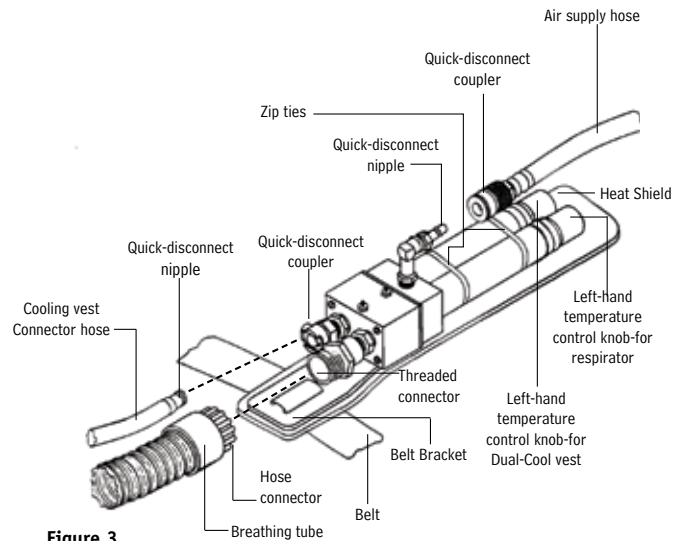

Figure 3
2. Use plastic zip ties (2 included) to secure the climate control to the heat shield. (**Figure 3**)
1. Screw the hose connector that is on the end of the breathing tube to threaded connector on Dual-Cool. Lace the belt through the slots in the belt bracket (**Figure 3**).
4. Snap the quick-disconnect nipple found on the end of the cooling vest connector hose into the quick-disconnect coupler on the Dual-Cool (**Figure 3**).
6. With the approved Bullard air supply hose connected to the breathing air source, and with air flowing into the hose, connect the quick-disconnect coupler on the air supply hose to the quick-disconnect nipple on the Dual-Cool (**Figure 3**).
1. To obtain cooler air, turn the air temperature control knobs counterclockwise (**Figure 3**). Maximum cooling is obtained when knobs are open completely and when there is maximum airflow out of the Dual-Cool tube's exhaust ports. To obtain air that is closer to ambient temperature, turn air temperature control knobs clockwise. If knobs are closed completely, your respirator will receive air that is essentially at ambient temperature.
There are separate controls to adjust the temperature of the air that is distributed to the vest and the breathing zone. The right-hand knob controls the air temperature to the respirator; the left-hand knob controls the air temperature to the cooling vest (**Figure 3**).